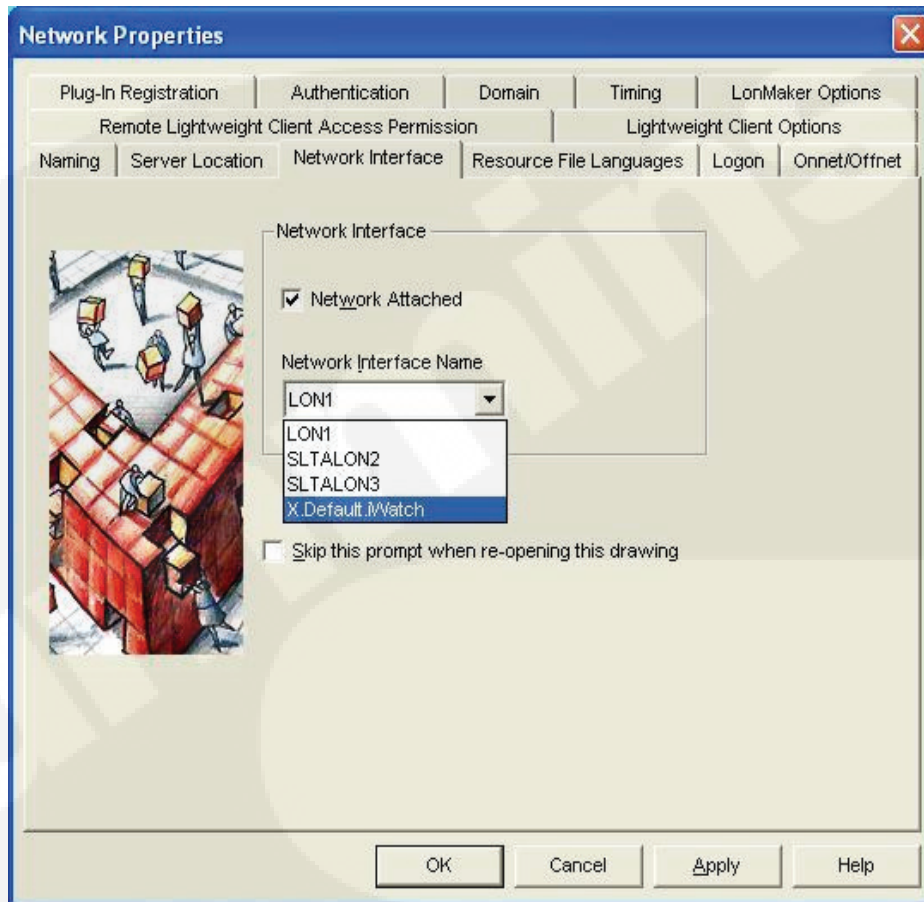

FIGURE 4-26. NETWORK INTERFACE
2. On the Network Properties box, select the “Network Interface” tab (see Figure 4-26).